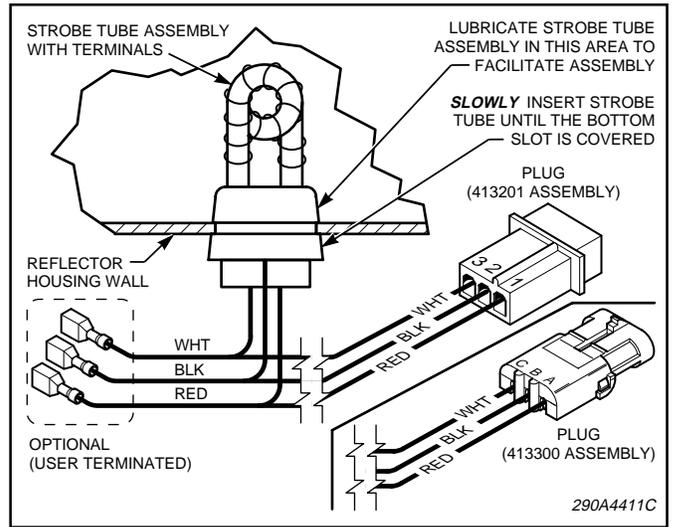

Figure 2.
5. See figure 2. SLOWLY insert the strobe tube in the reflector housing until it is properly seated in the bottom slot of the strobe tube. If the strobe tube is difficult to insert, remove it and apply a high temperature grease, or Vaseline, to the rubber edge of the strobe tube and try again.
5. See figure 2. Determine the termination required to connect the new strobe tube assembly to the 3-conductor